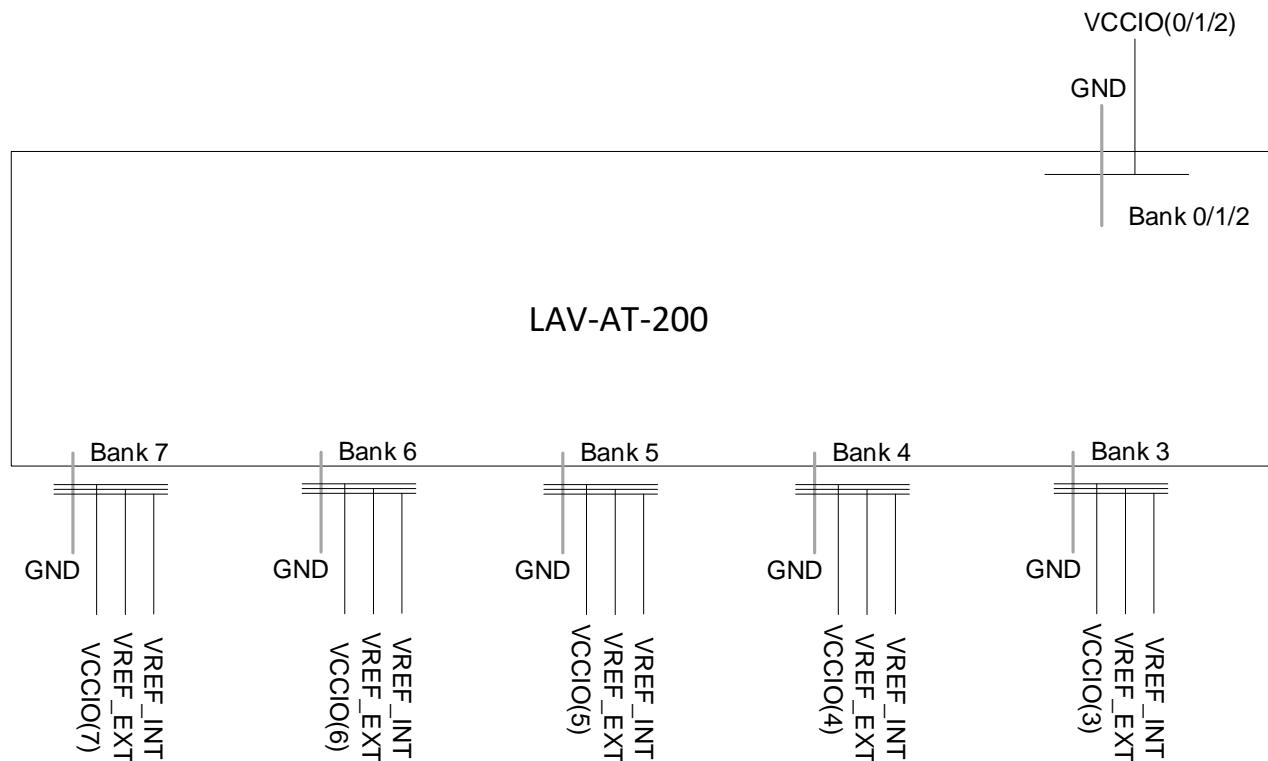
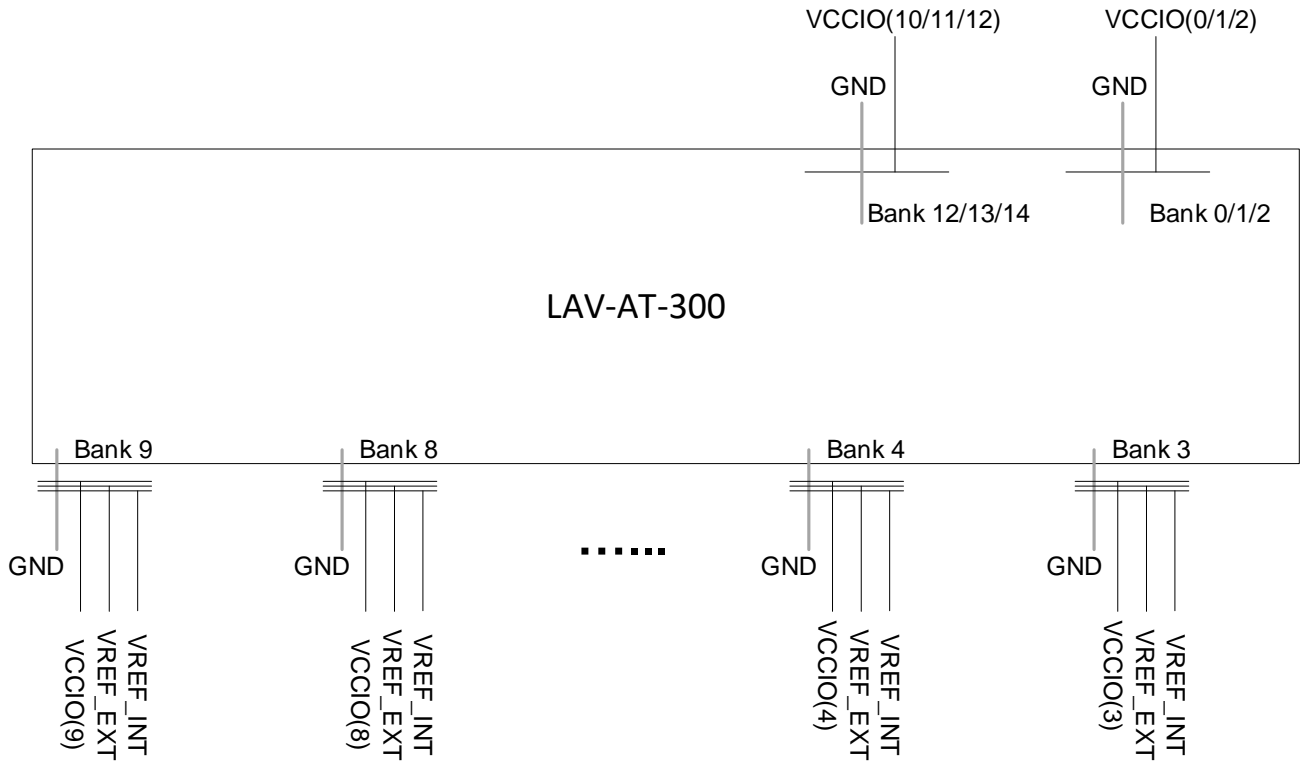
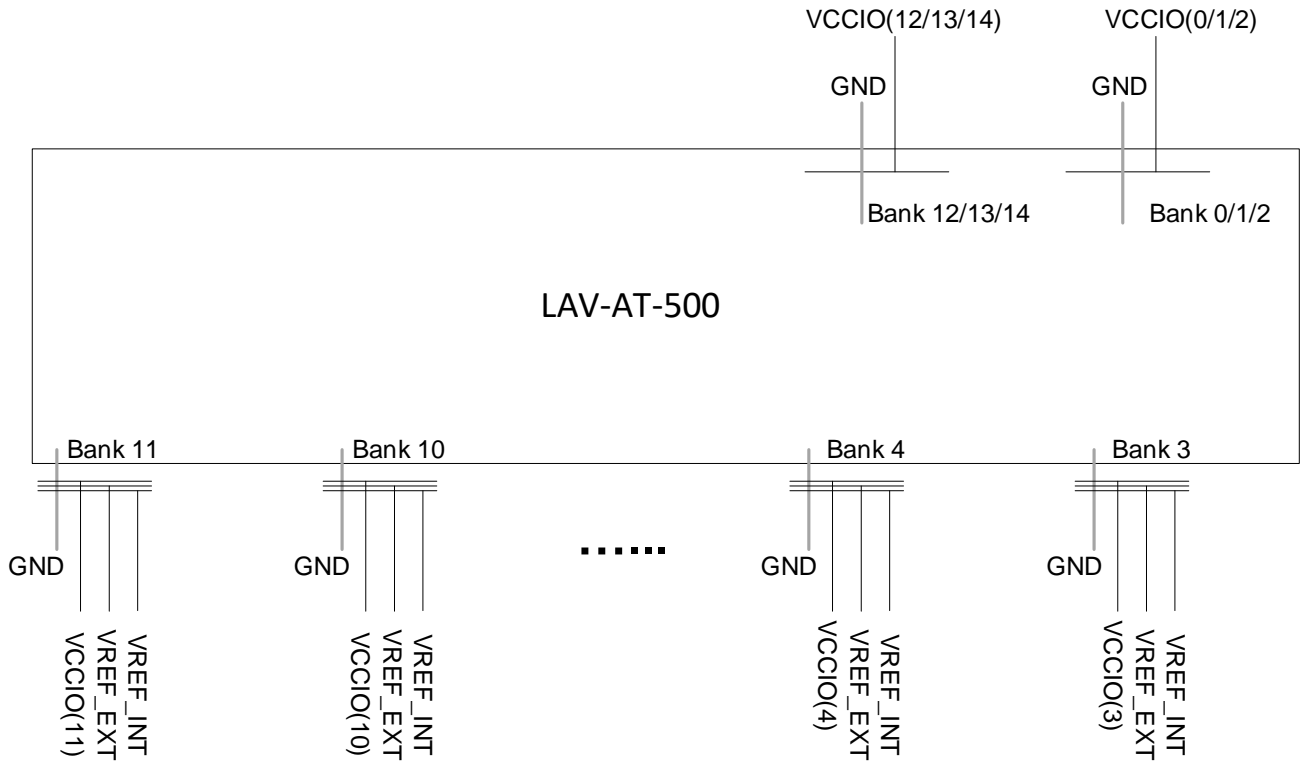

Figure 3.1. LAV-AT-200 sysI/O Banking
Figure 3.2. LAV-AT-300 sysI/O Banking
Figure 3.3. LAV-AT-500 sysI/O Banking
LAV-AT-500 devices have fifteen banks, LAV-AT-300 devices have thirteen banks, and LAV-AT-200 devices have eight banks. Top side banks are wide range (WR) I/O supporting V_{CCIO} up to 3.3 V, there is a total of 52 I/O, distributed into three WR I/O banks, LAV-AT-500 devices and LAV-AT-300 devices have another three WR I/O banks for a total of six WR I/O banks (104 I/O). Bottom side banks are high-performance (HP) I/O supporting V_{CCIO} up to 1.8 V, each HP bank has 52 I/O. In addition, high-performance banks support internal trainable VREF signal (VREF_INT) and external VREF (VREF_EXT). External VREF enters the bank through the configurable I/O. Figure 3.1 shows the location of each bank of the LAV-AT-200 device, three banks on the top side and five banks on the bottom side. Figure 3.2 shows the location of each bank of the LAV-AT-300 device, six banks on the top side and seven banks on the bottom side. Figure 3.3 shows the location of each bank of the LAV-AT-500 device, with six banks on the top side and nine banks on the bottom side.